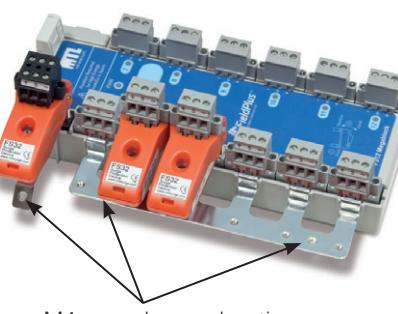

Figure 5.7: With some FS32 modules
4. Use an M4 screw and ring terminal to connect *each* grounding bar to a suitable low-impedance ground point - see Figure 5.7.